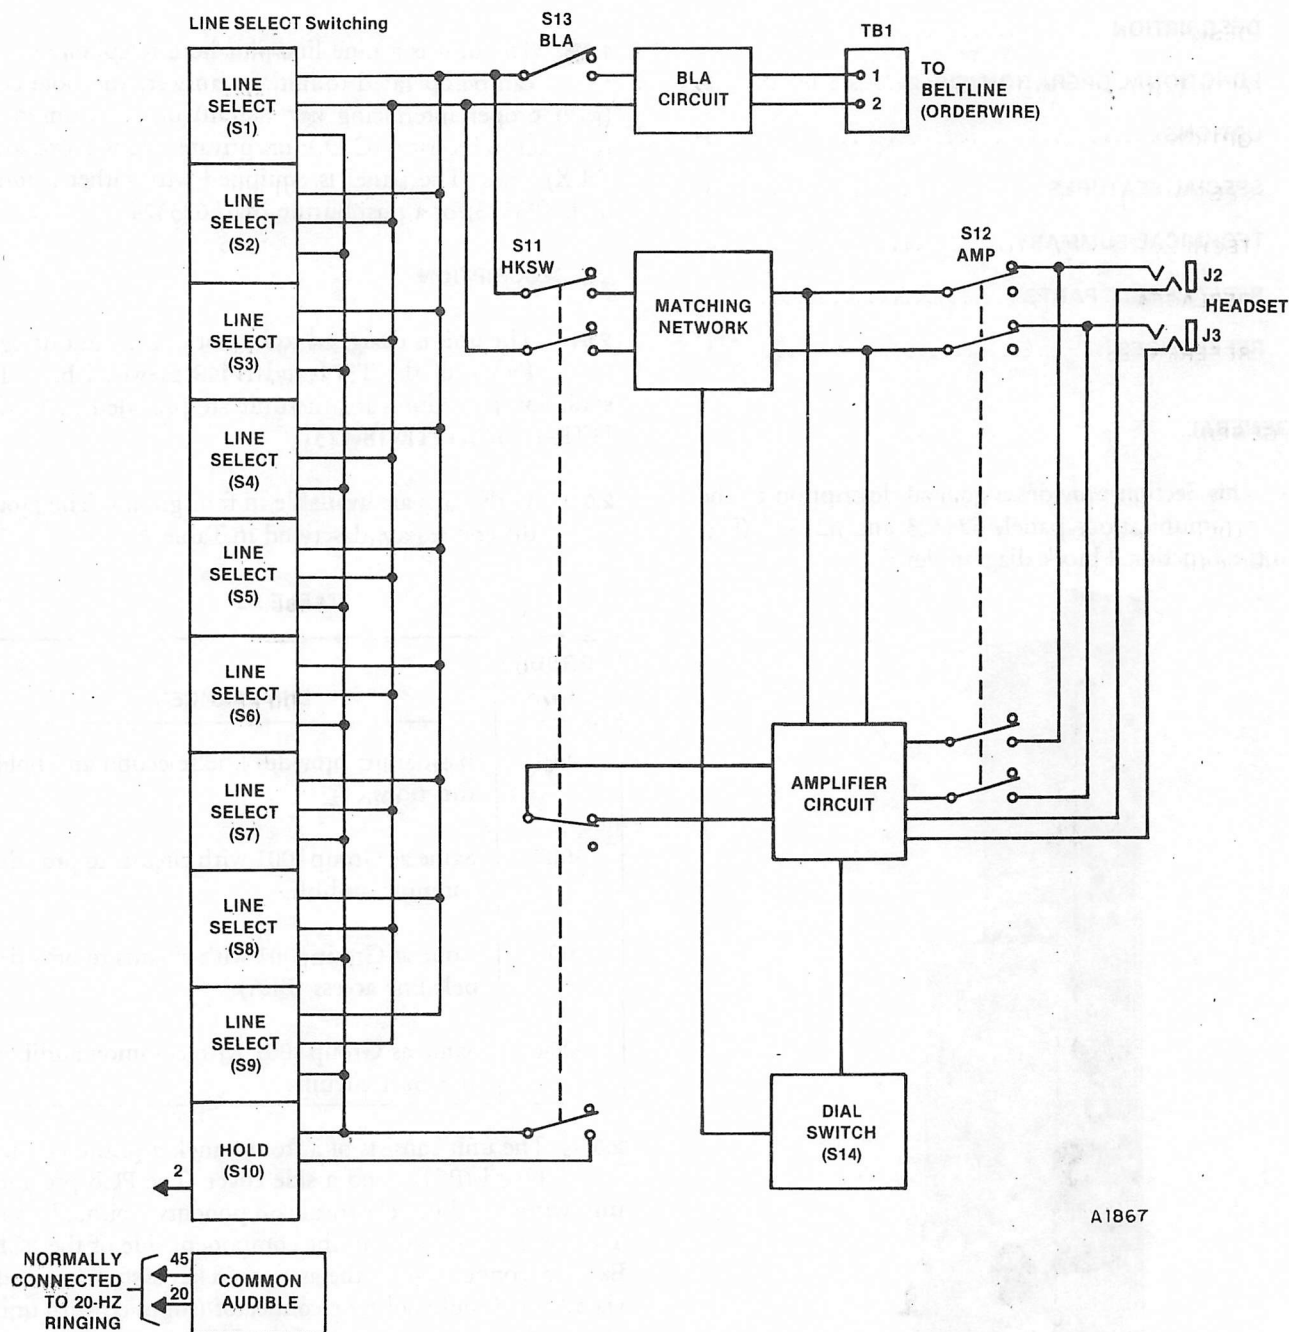

Fig. 2—Communications Panel, 623323 and 623324, Functional Block Diagram
3. FUNCTIONAL OPERATION (FIG. 2)